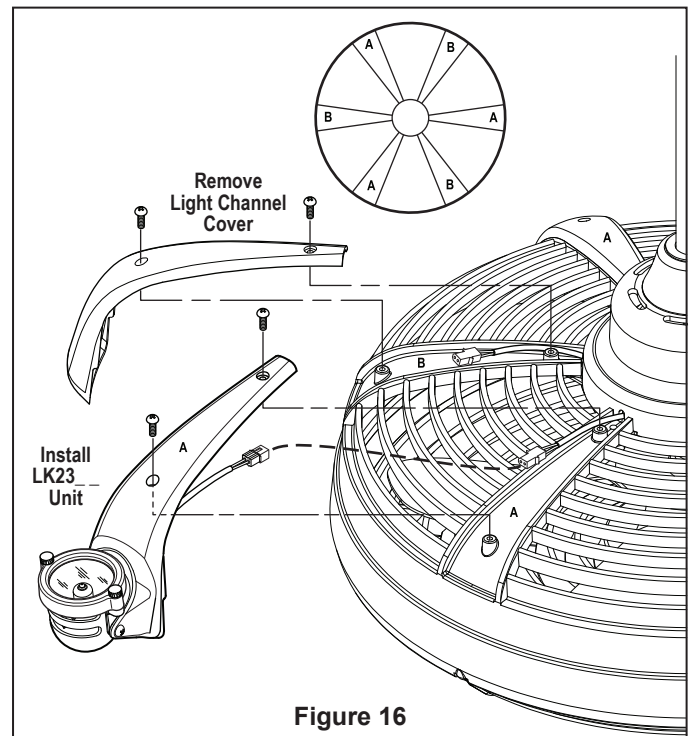

Figure 16
2. Remove the “plain” light channel covers with the Philips screwdriver. Save the screws. (Figure 16)